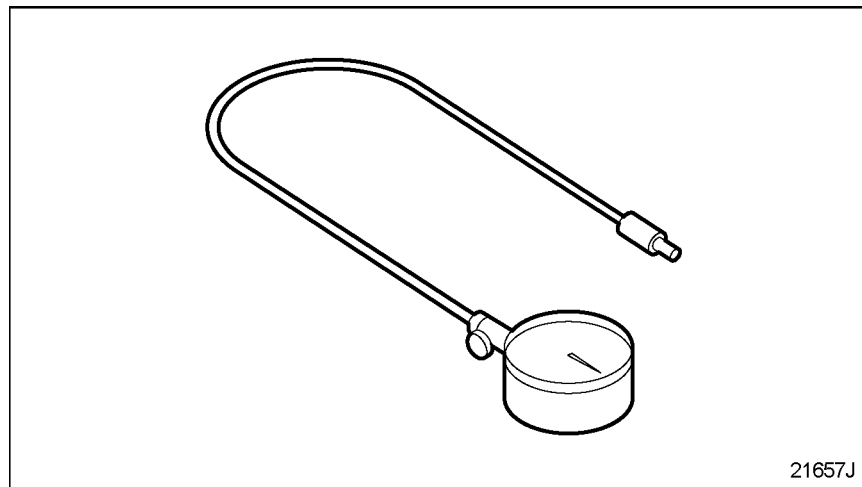

Figure 4-5 Attach Cylinder Compression Gauge J-6692-B
19. Attach cylinder compression gauge (J-6692-B) to the first adaptor. See Figure 4-5.